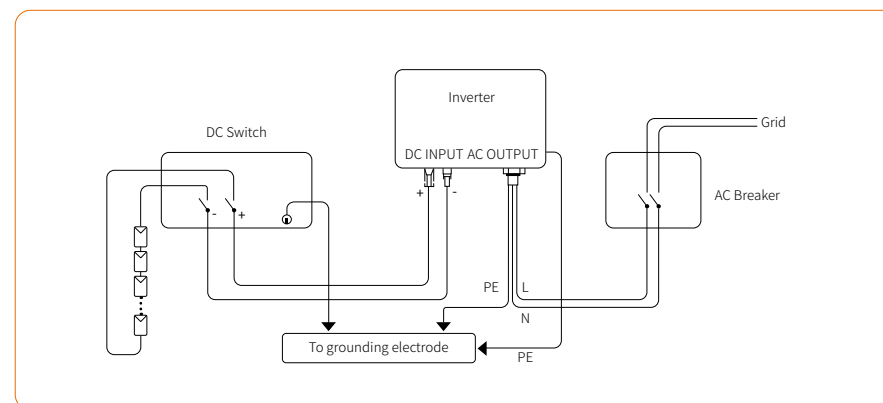

Figure 4-15
② We recommend the following electrical connection, as shown in Figure 4-15: